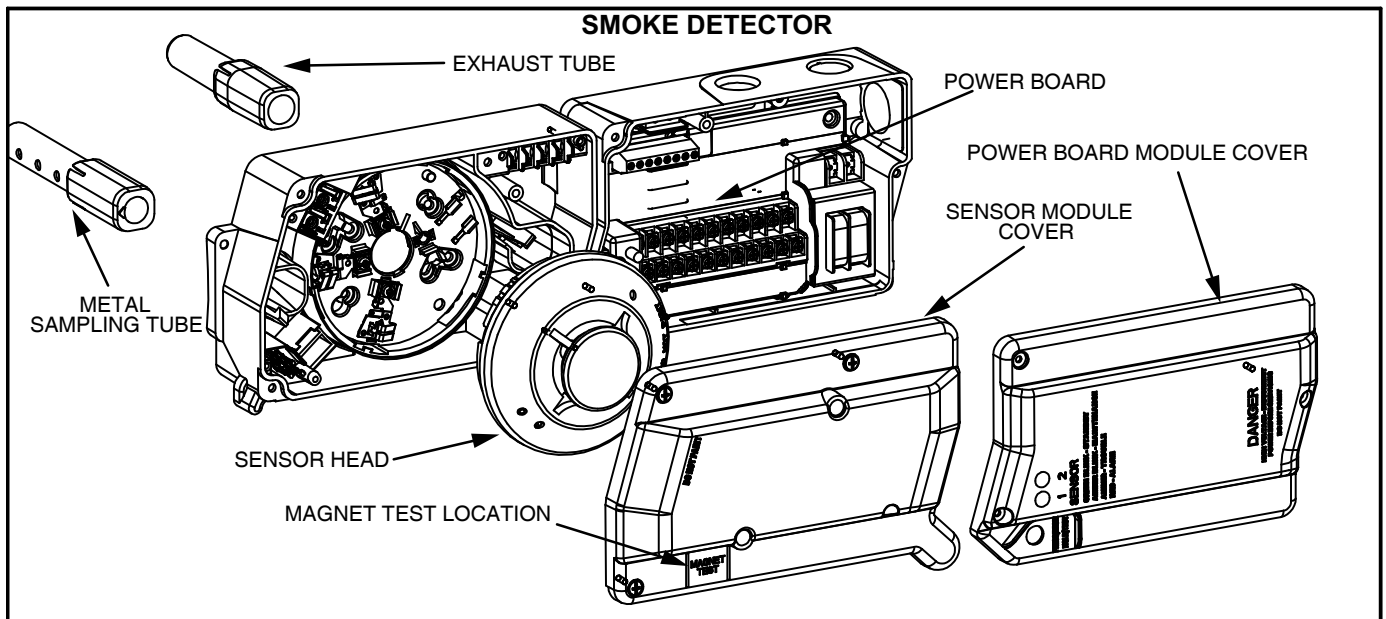
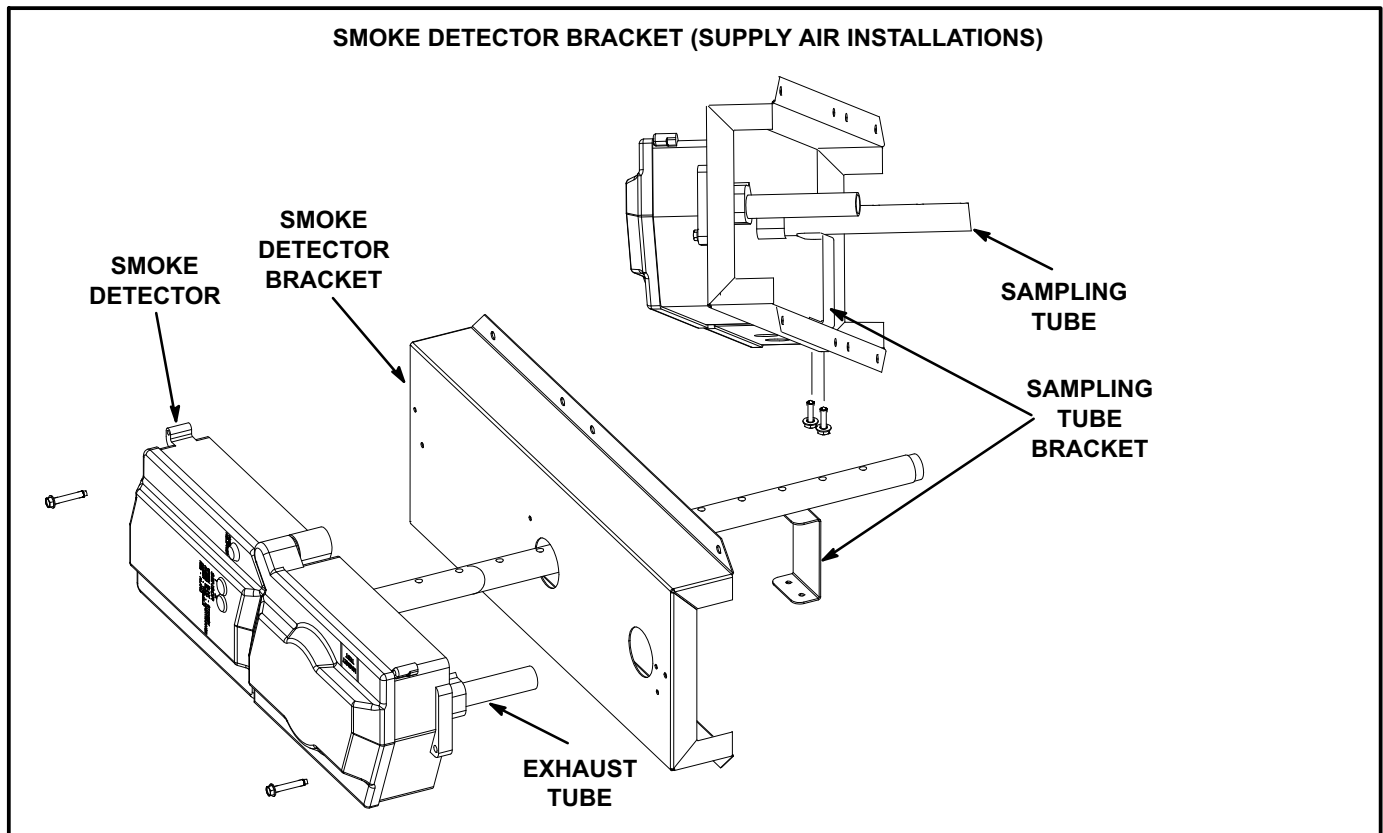
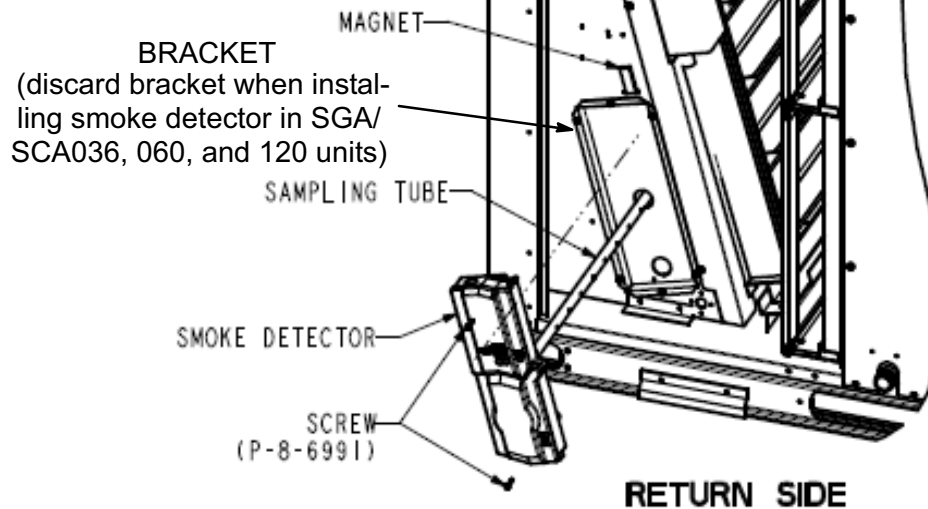

FIGURE 1
FIGURE 2
FIGURE 5
- 1- Install sampling and exhaust tubes in smoke detector before installing smoke detector or bracket in unit. The exhaust tube is packaged with the smoke detector. See figure 1. Also refer to figure 2 and 3 for supply air installations and figure 5 for return air installations. Discard unused tubes.
- 1- Install the sampling tube bracket in the smoke detector bracket. See figure 2.
- 6- Remove sampling tube brace from smoke detector bracket. Install on the opposite side of smoke detector bracket using the holes provided. See figures 2 and 3.
- 1- Install smoke detector as shown in figure 5. Secure in place using two 1" screws.